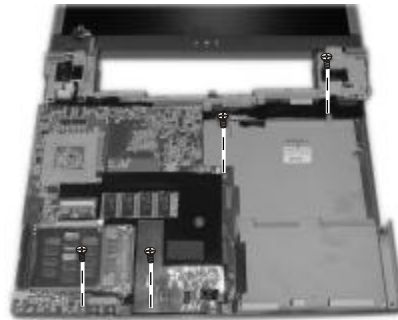

Figure 2-25 Remove four screws
10. Remove four screws fastening the system board into housing. Then lift up the system board. Peel off the antenna cord. Then detach the LCD ASSY. (Figure 2-25)